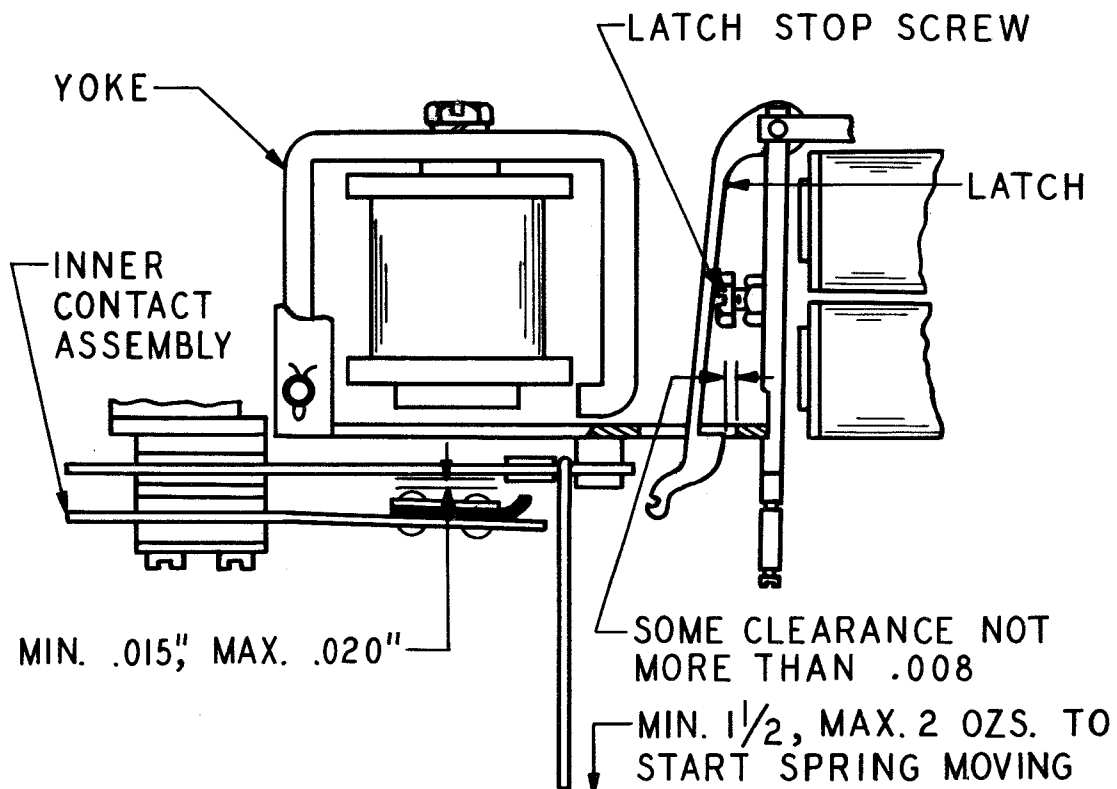

Figure 15
2.31 Stop-magnet Core: With the stop-magnet armature held in the operated position, there should not be more than 0.004-inch clearance between the armature and the pole face. See Figure 15 for location of parts.
2.35 Latch Stop-screw: With the stop-magnet armature held in the operated position by the notch in the start-magnet armature, there should be some clearance, not more than 0.008 inch, between the high part of the latching surface of the latch and the end of the slot in the stop-armature. (See Figure 15.)
2.40 The Inner-contact Assembly should meet the following requirements with the stop-magnet armature held operated by the notch in the start-magnet armature: (See Figure 15.)